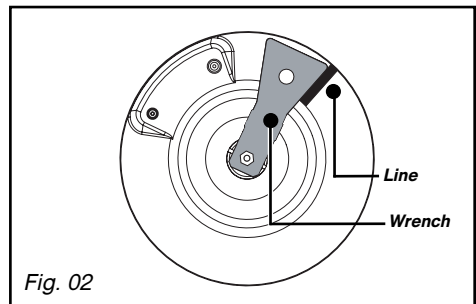

Fig. 02
– **Connection with a reinforced flexible rubber hose** with screw-on **mechanical connectors** whose service life is 10 years (Fig. 02).
- Draw a line on the burner plate using a pencil at the place indicated (Fig. 02).